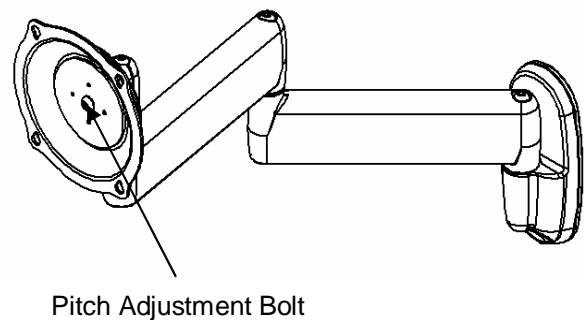

Figure 18. Adjust Pitch Tension
- b. Using a 3/16" hex wrench, slightly tighten or loosen pitch adjustment bolt to adjust Centris Bracket as needed (see Figure 18).